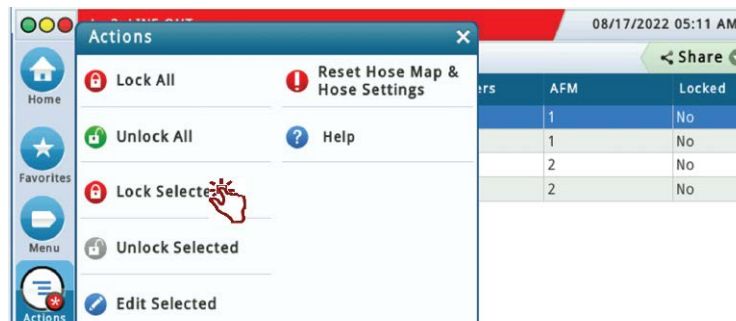

Figure 29. Locking Completed Hose Map
8. Once completing mapping all product grades to the hose, lock that hose via the Actions dialog box (see Figure 29 and Figure 30).